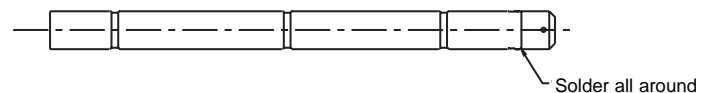

Figure 15
d. Install copper replacement plug into inner conductor and solder all around. Make sure no gaps or voids are visible between mating copper surfaces, Figure 15.